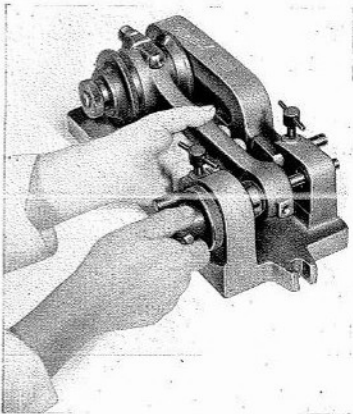

Fig. J.6.
2. Remove the slip bush and pass the centraliser with bearing surfaces oiled, through the bushes of the fixture and small end bush of the connecting rod until there is a small even clearance between the small end and centraliser. (See Fig. J.6).